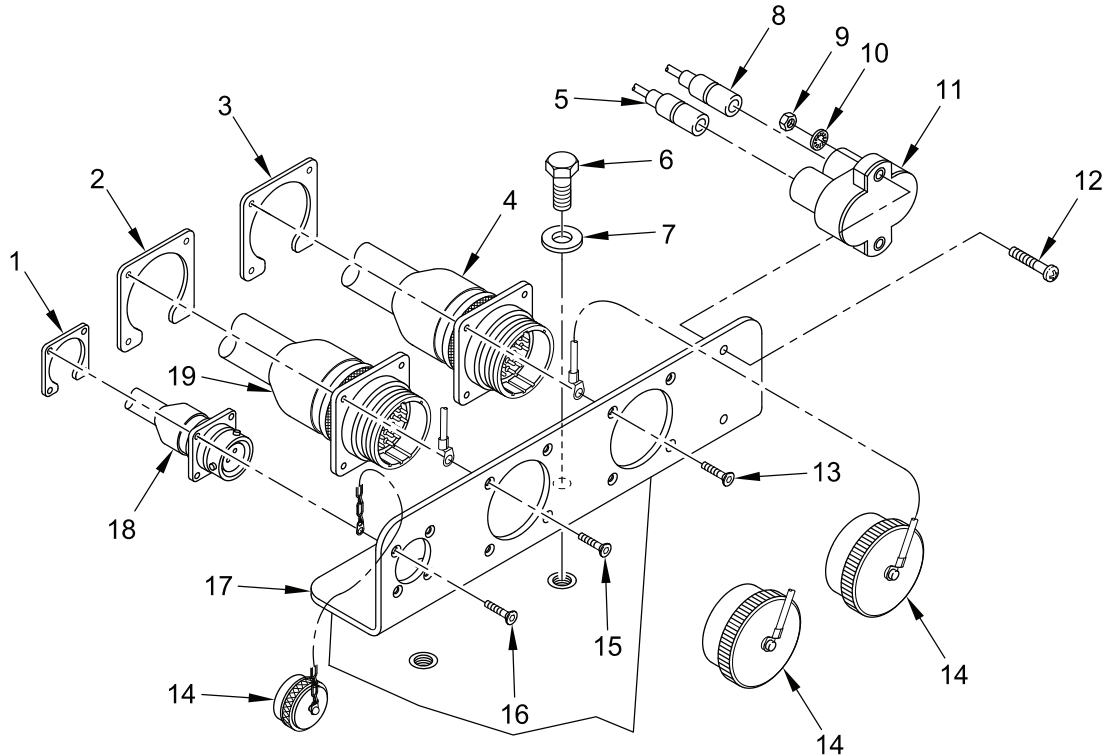

Figure 2. Install HDC Disconnect Bracket
5. Disconnect circuit 10 (Figure 2, item 8) and circuit 1070 (Figure 2, item 5) connectors from HDC circuit breaker (Figure 2, item 11).
6. Remove two nuts (Figure 2, item 9), two lockwashers (Figure 2, item 10), two screws (Figure 2, item 12), and HDC circuit breaker (Figure 2, item 11) from HDC disconnect bracket (Figure 2, item 17). Discard lockwashers.
7. Remove two self-locking screws (Figure 2, item 6), two flat washers (Figure 2, item 7), and disconnect bracket (Figure 2, item 17) from bulkhead. Discard self-locking screws.